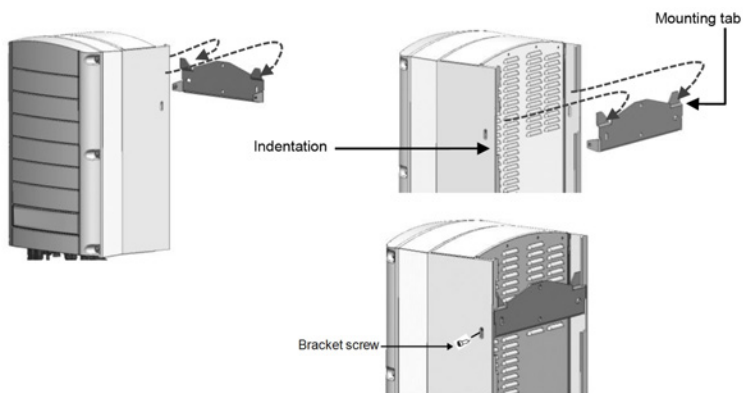

Figure 9: Hanging the inverter on the bracket
- Ensure that the flat edge of the bracket is at the bottom, as in *Figure 9*.
- Hang the inverter on the bracket (see *Figure 9*): Lift the inverter from the sides, or hold it at the top and bottom of the inverter to lift the unit into place. Do not lift holding the Connection Unit DC Safety Unit as it may be damaged.
- Insert the two supplied screws through the outer heat sink fin on both sides of the inverter and into the bracket (see *Figure 9*). Tighten the screws with a torque of $4.0 \text{ N}\cdot\text{m}$ / $2.9 \text{ lb}\cdot\text{ft}$.